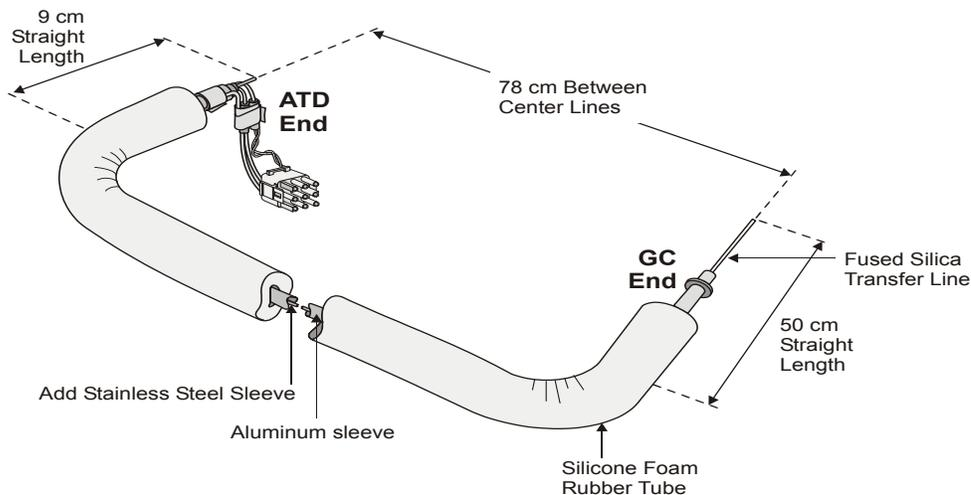

Figure 7 Bend Dimensions for Connecting the ATD/TD Transfer Line to an AutoSystem GC or Clarus 500 GC
2. Two right-angle bends with a radius of approximately 8 cm (3.25”) should be put in the transfer line assembly. At the ATD/TD end, the bend should leave 9 cm of straight tube at the end and the electrical connections should be pointing downward. See *Figure 7*.
1. Bend the transfer line as shown in *Figure 7*.